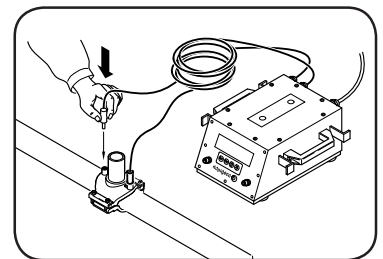

FIG.3
- 5 Connect the two cables of the electrofusion machine to the connectors of the branch saddle (fig.3). Scan the bar code (see fig.6) with the bar code scanner or enter the welding parameters manually. **ALWAYS CHECK THE WELDING PARAMETERS.**